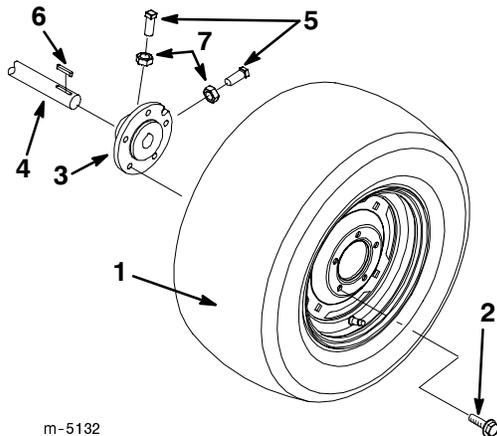

Figure 1
- Remove the 10 lug bolts securing the wheels and the wheels, saving them for future use (Fig. 1).
- Loosen the jam nuts securing the four hub retaining bolts (Fig. 1).
- Remove the hub retaining bolts (Fig. 1).
- Remove the wheel hubs (Fig. 1).
- Thread the new jam nuts onto the 4 new bolts (1/2 x 1-1/4 in.) (Fig. 1).
- Slide the new keys into the slots on the axle shafts (Fig. 1).
- Slide the hubs over the rear axle shaft so that the keys slide into the slots in the hubs. Push the hubs onto the shafts until the faces of the hubs are flush with the faces of the shafts (Fig. 1).
- Thread the bolts and jam nuts into the holes in the hubs (Fig. 1).
- Tighten the jam nuts against the hubs (Fig. 1).
- Place the wheels over the hubs and install them with the lug bolts removed previously (Fig. 1).